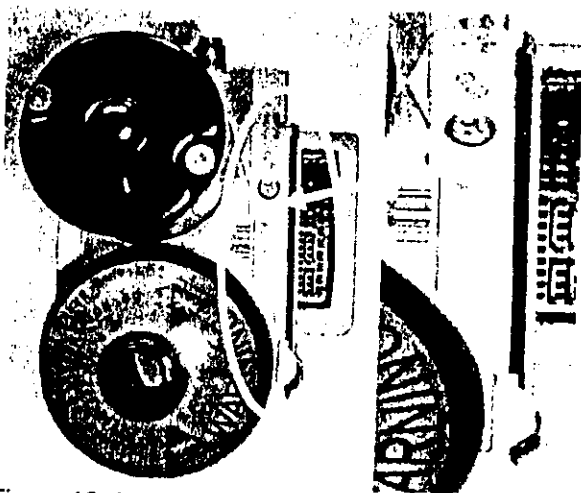

Figure 12: Attaching the bracket to the SBC hydraulic unit
17. Attach bracket with self-tapping hexagon bolt to the SBC hydraulic unit (see Figure 12). In order to avoid the self-tapping screw from snapping off, the screw must be positioned **absolutely straight** and tightened with the prescribed torque of 7 Nm!